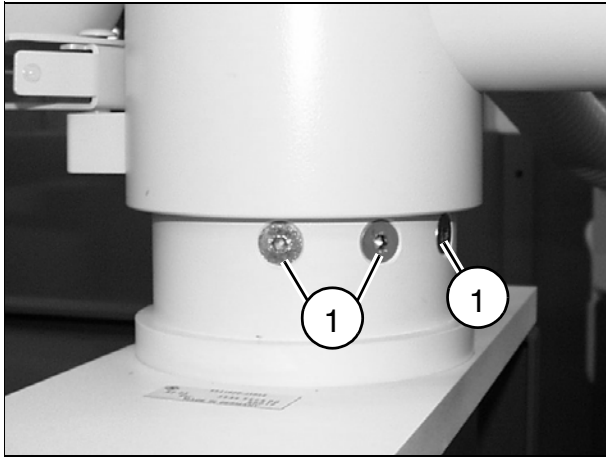

Fig. 34
- Remove the 3 screws (1/ Fig. 34). Take out the spring mount.